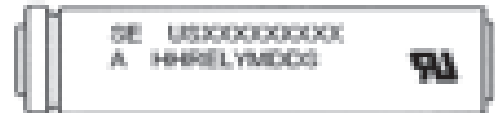

Fig.1
6.2 Trade Mark (Fig.1 : USXXXXXXXXXX) 登録商標名 (Fig.1 : USXXXXXXXXXX)
6.3 Plant (Fig.1 : A for plant code) 製造所 (Fig.1 右記号 : A)
6.4 Specification (Fig.1 : HH for Cell Type) 仕様 (Fig.1 : HH)
6.5 Lot Number (Fig.1 : YMDDS for Manufacturing Date of Cells)
ロット、セル製造年月日 (Fig.1 : YMDDS)
Lot Number (Fig.1 : YMDDS for Manufacturing Date of Cells)
6.6 UL Marking UL マーク (Fig.1 : Recognition Mark)